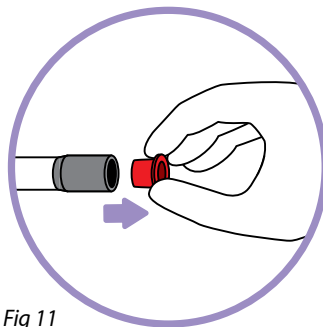
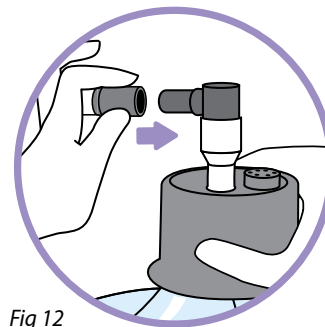

Fig 11
Fig 12
14. Remove the red protective cap from the bottle tube (Fig 11). Install it into the bottle adaptor (Fig 12).